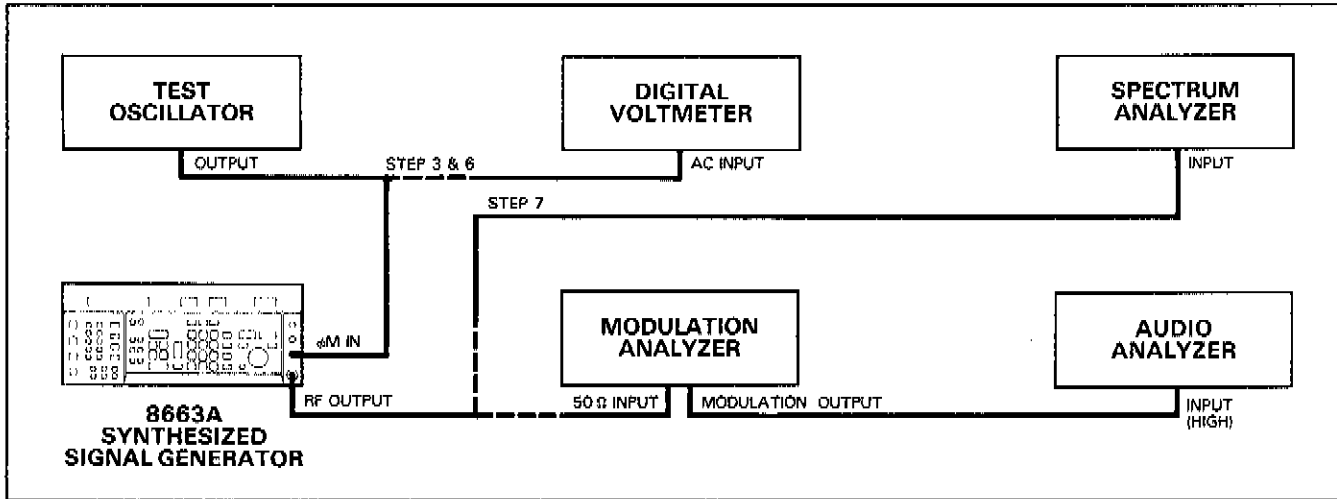

Figure 4-4. Phase Modulation Test Setup
1. Connect the equipment as shown in Figure 4-4 and apply power. Set the modulation analyzer to measure phase modulation using the 50 Hz HP FILTER and PEAK+ DETECTOR. Key in 1.745 and push the %RATIO key which will cause the display to read in degrees.
7. Disconnect the cable from the modulation analyzer's input and connect the cable to the spectrum analyzer's input as shown in Figure 4-4.